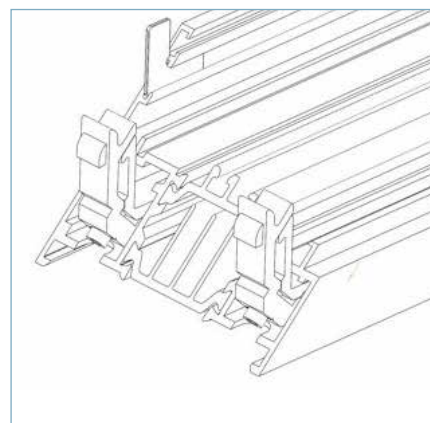

FIG 3
- ▶ 4. Tighten cleats with an allen key and ensure barb is against cut out as shown (FIG 3)